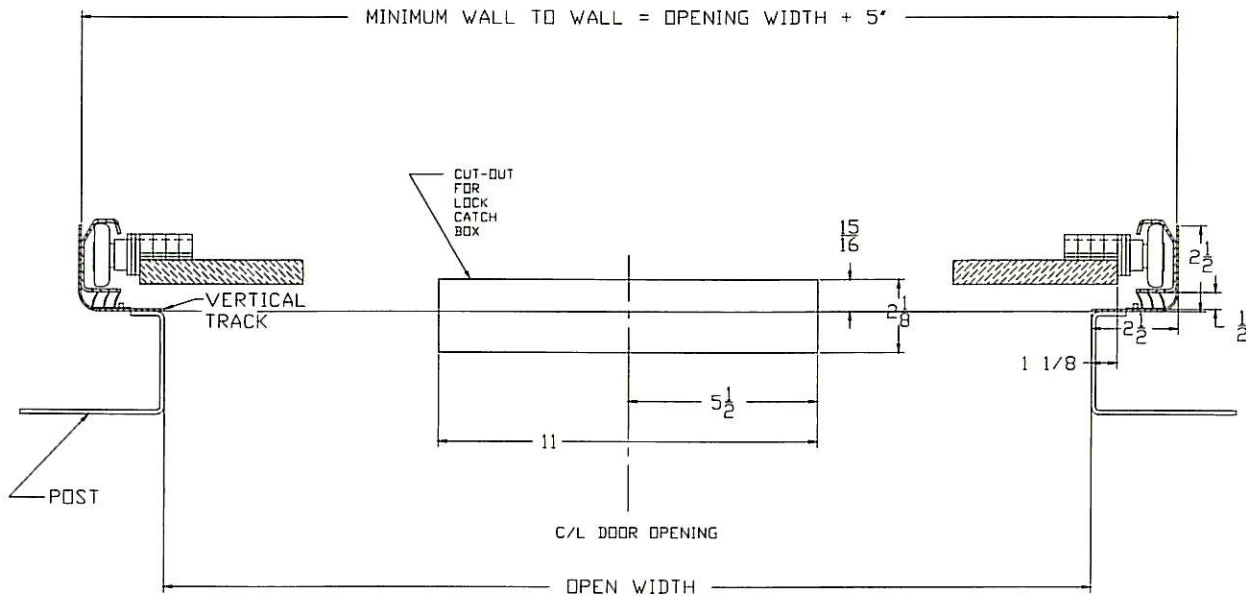

Figure 3
***See Figure 3 for clearance dimensions.**